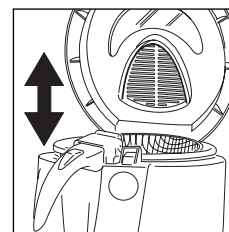

fig. 3
- Remove the basket by pulling the handle upwards (fig. 3).